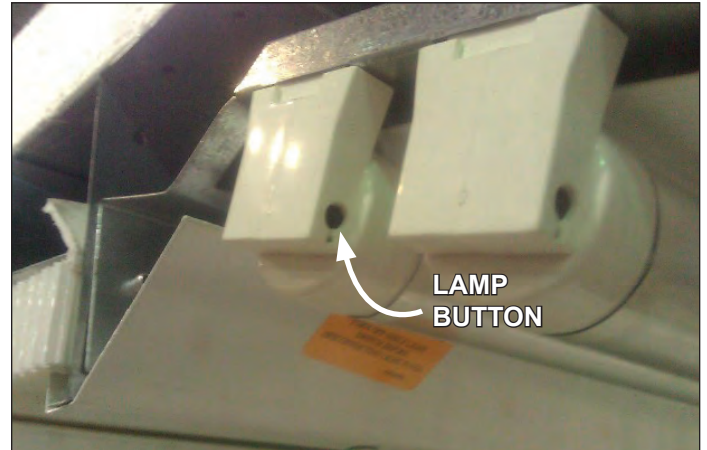

Fig. 9 Align new T-8 with plug button to secure
3. Push the new T-8 lamp into place on the lamp holder. When the T-8 is properly seated, the lamp button - which secures the T-8 to the lamp holder - will be clearly visible through the lamp button hole (Fig. 9).